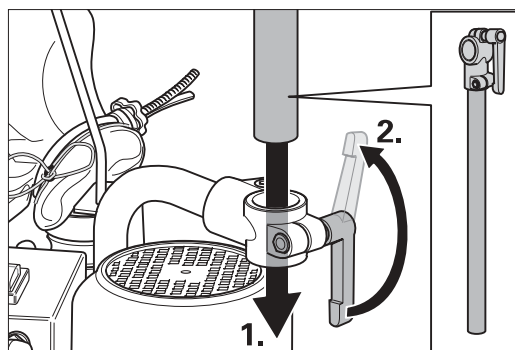

Fig. 9: Inserting the extension into the clamping piece of the pipe bend.
- 1 Insert the extension into the clamping piece of the pipe bend and tighten the clamping lever firmly (Fig. 9).